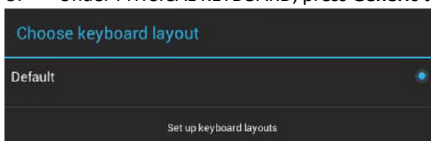

FIG. 90 Choose Keyboard Layout window
5. Under **PHYSICAL KEYBOARD**, press **Generic** to open the Choose Keyboard Layout window (FIG. 90):